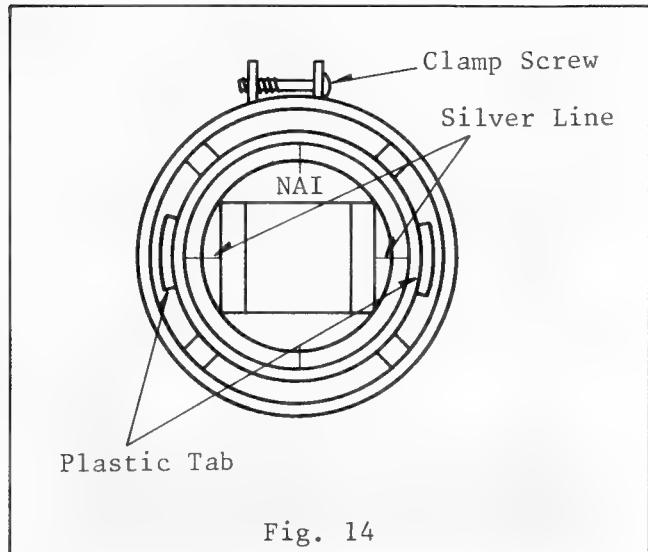

Fig. 14
- 3-11. Line up the plastic tab on the D.Y. assembly with the silver line on the face of the special tube and the mark, "NAI", should be up side as shown in Fig. 14.